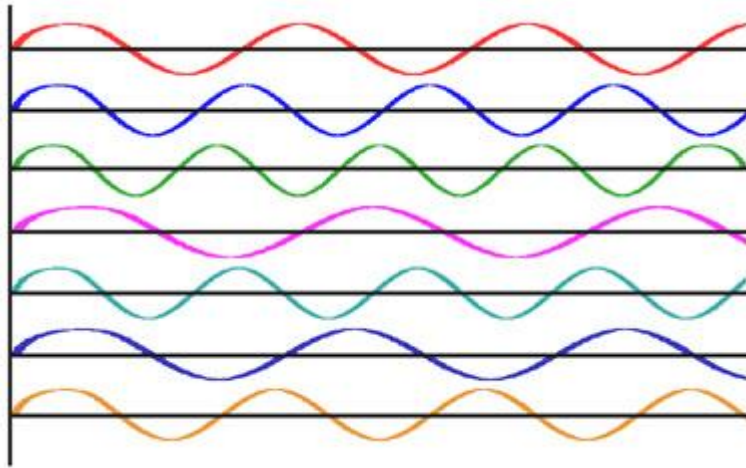

Fig. 5
(14) Figure 5 depicts a parallel beam of light waves from an ordinary source traveling through space. None of these waves has any fixed relationship to any of the other waves within the beam. This light is said to be "incoherent," meaning that the light beam has no internal order. (Mike Leeming)